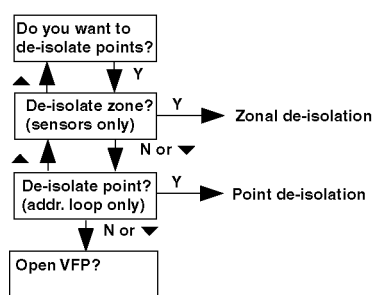

Fig. 11 'MINERVA' Controller - De-isolate Menu
- 1) Select the 'De-isolate' option from the Main Menu. The menu shown in Fig. 11 will be displayed. The menu options are selected as described in section 3.4.1, or